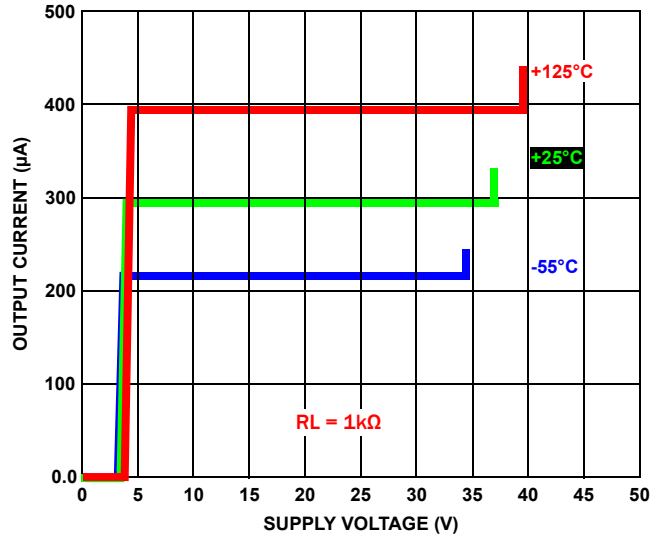

FIGURE 9. VI CURVE OF V_S vs I_{OUT} OVER-TEMPERATURE
- The maximum voltage beyond which output current performance is not to be considered valid (Figure 9).